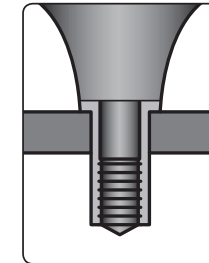

Fig. 5
- Insert the rivet nut into the installation hole (fig. 5).